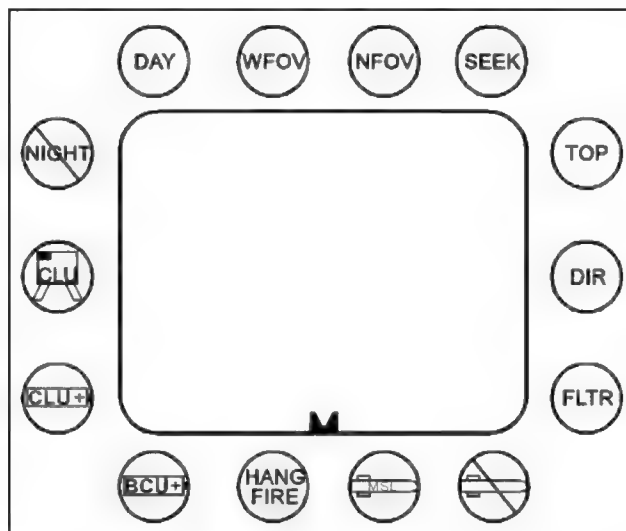

Figure 1-13. Status indicators.
(2) The CLU display is like a miniature television, which is used to make the wide field of view (WFOV), narrow field of view (NFOV), and seeker infrared images visible to the gunner. The cathode ray tube (CRT) converts electrical signals from the signal processor into visible images for the gunner.
(3) The CLU status indicators (Figure 1-13) are fourteen icons that surround the CLU display. The icons identify operational modes, conditions, and malfunctions coded in green, amber, and red. The icons give the gunner continuous feedback about the current missile readiness or possible system malfunctions, visible during day and night usage. All indicators will be explained in detailed in Chapter 2.